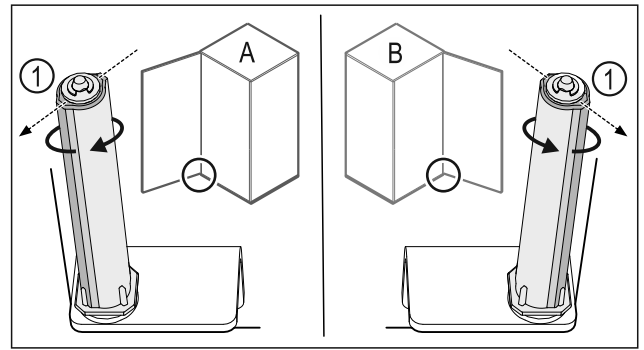

Fig. 54 Left-hinged (A) / Right-hinged (B)
- ▶ Turn the closing system against the resistance until the bar of the closing system Fig. 54 (1) points outwards.